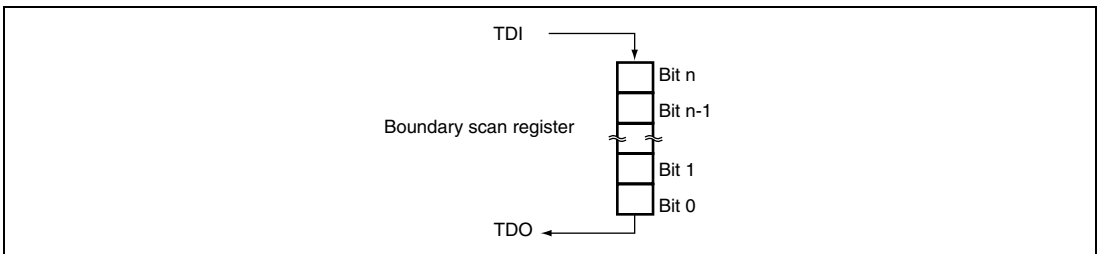

Figure 13.5 Serial Data Input/Output
4. In serial communication, data is input or output from the LSB as shown in figure 13.5.